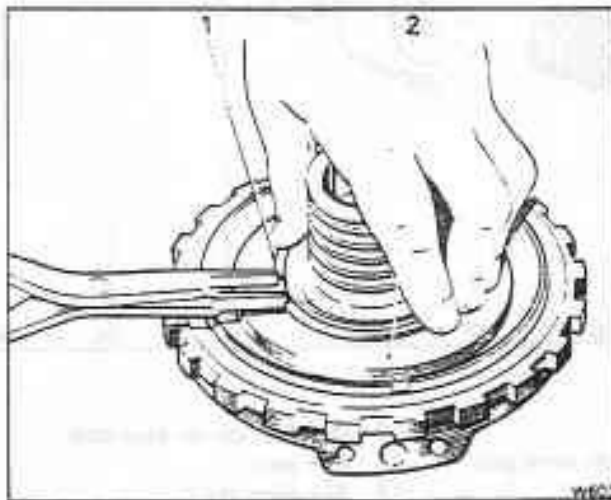

Fig. T19-5 Removing and fitting the intermediate clutch piston snap ring
2. Remove the snap ring (see fig. T19-5).